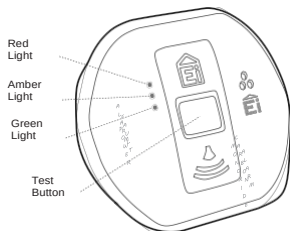

Figure 5
8. Wait 15 seconds and then press the Test button to ensure that the Alarm works (see figure 5).